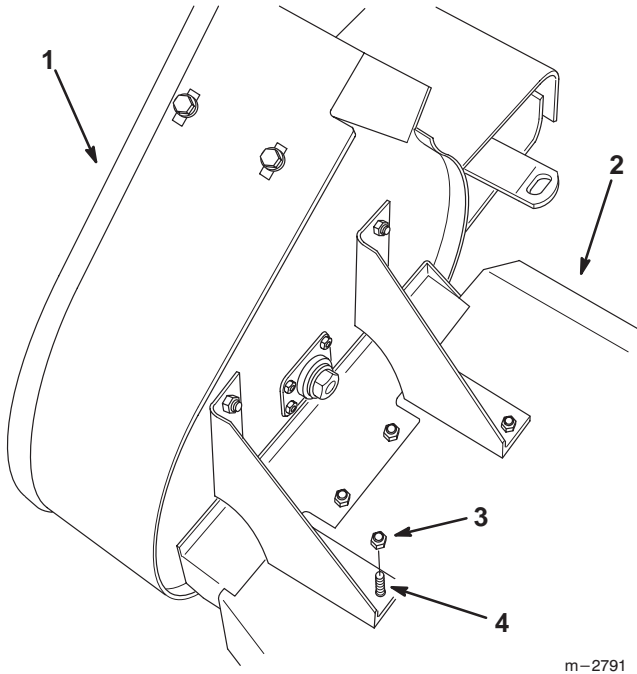

Figure 7
3. Install the blower assembly onto the mower deck using six (6) 5/16"-18 x 3/4" (19 mm) bolts and locknuts. Insert the hex bolts from the bottom of the deck (Fig. 7).